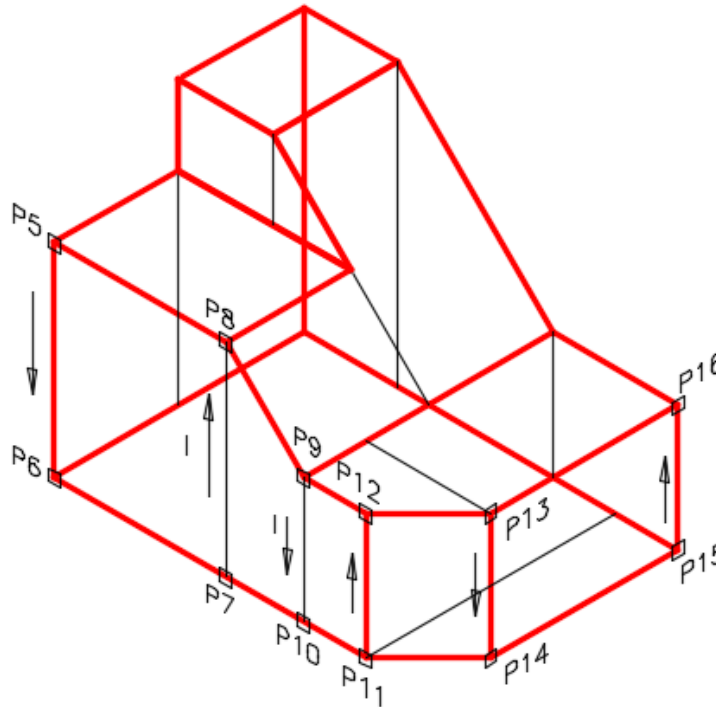

Figure Step 7
Step 7 Enter the 3DFACE command as shown below. In this command, insert the common edges on the same plane as invisible. The figure shows the two edges (marked with an I) that should be inserted as invisible. (Figure Step 7)